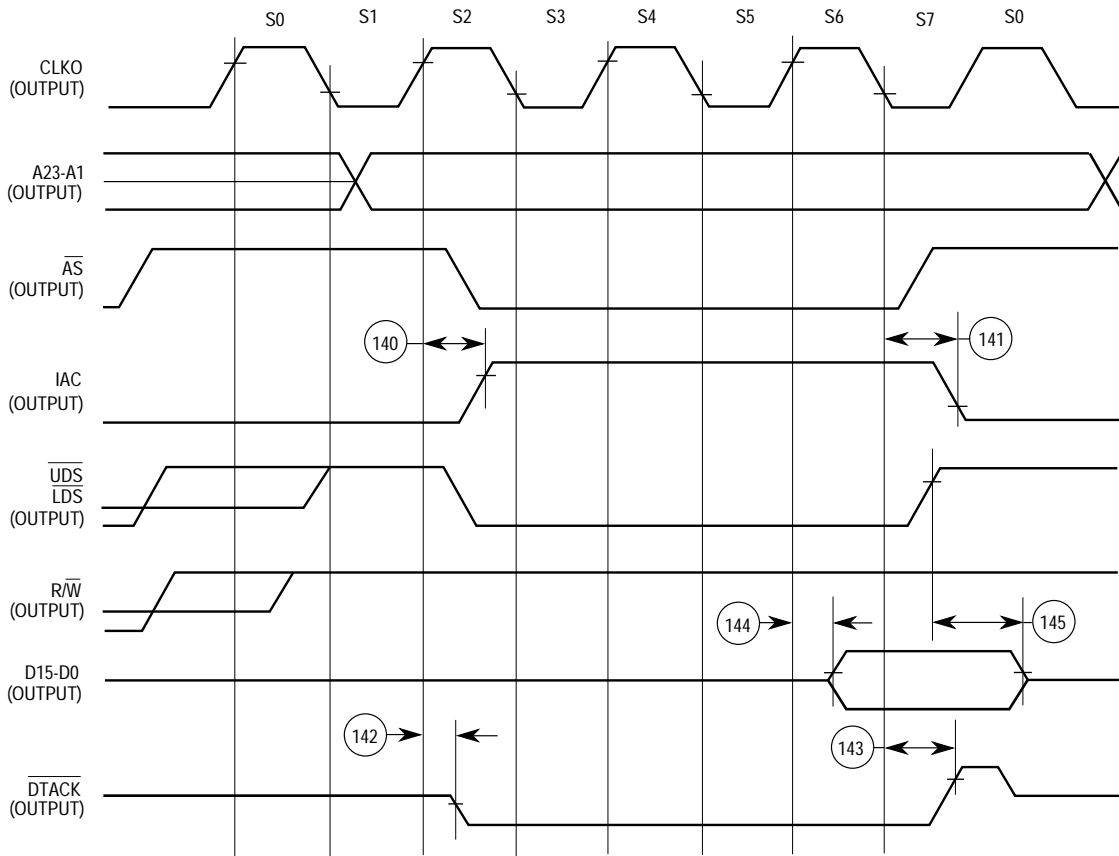

Figure 6-12. Internal Master Internal Read Cycle Timing Diagram
6.12 AC ELECTRICAL SPECIFICATIONS—INTERNAL MASTER INTERNAL READ/WRITE CYCLES (see Figure 6-12)